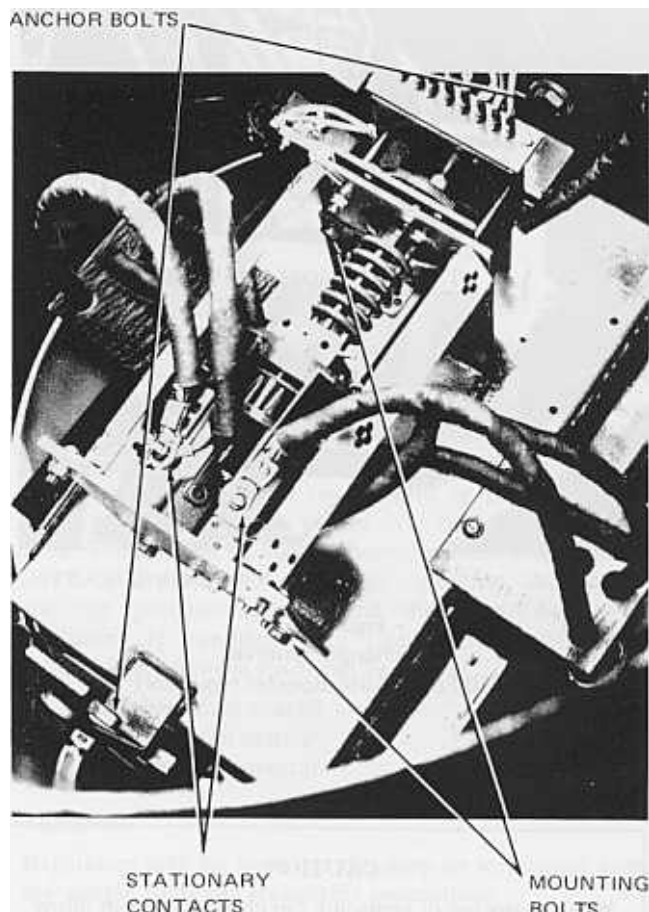

Figure 14
E. Remove the 9/16-inch hexhead bolts which anchor the core-and-coil assembly (Figure 14).